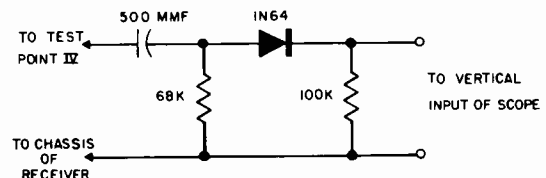

FIG. 3. 4.5 MC DETECTOR NETWORK
2. Connect detector network (Figure 3) to Test Point IV and set contrast to maximum. Connect oscilloscope to network.